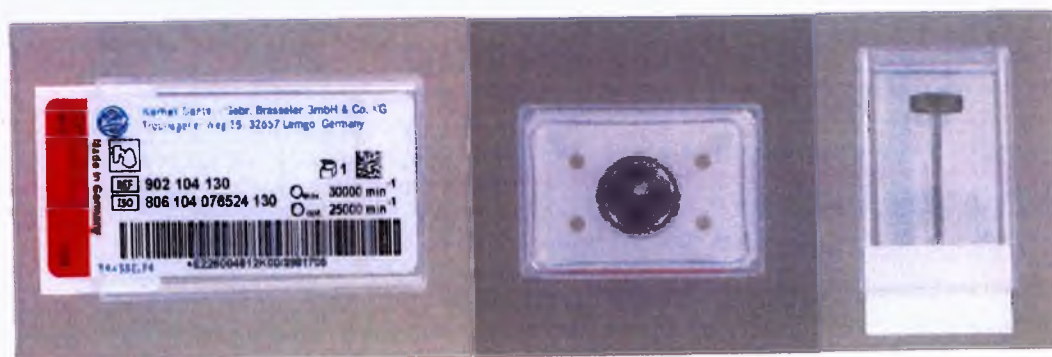

Figure 10
- With full diamond coating of working part (Figure 10)